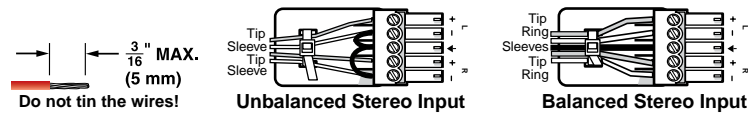
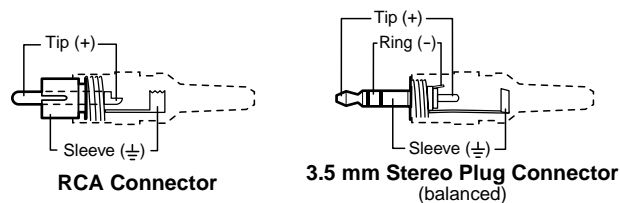

Figure 5. Captive Screw Connectors Wiring for Inputs
Figure 6. Phono Audio Connectors
- ③ **Input audio connectors** — Connect balanced or unbalanced stereo or mono audio sources to these 3.5 mm, 5-pole captive screw connectors. Connectors are included with the seamless switcher, but you must supply the audio cable. Figure 5 shows how to wire a connector for the appropriate input type.
NOTE: When making connections for the seamless switcher from existing audio cables, see figure 6. A mono audio connector consists of the tip and sleeve. A stereo audio connector consists of the tip, ring and sleeve. The tip, ring, and sleeve wires are also shown on the captive screw audio connector diagram, figure 5.